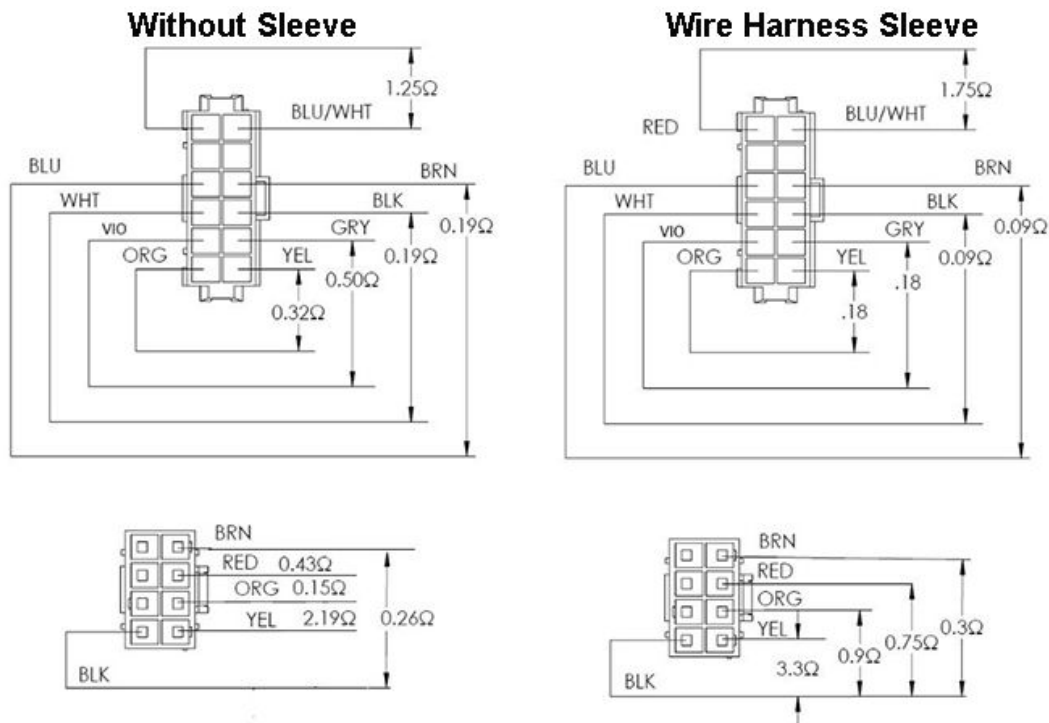

Fig. 119
3. Verify resistance is $\pm 10\%$ for each reading. Refer to Fig. 119.
There are two types of transformers, one with a wire harness sleeve and one without. Use the proper diagram for the transformer you are servicing in Fig. 119.